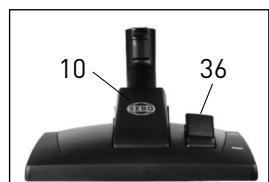

Figure 18
Kombi Nozzle (optional) - Figure 18
The Kombi Nozzle (10) is adjustable for carpet or hard floors. To set for hard floors, push the back end of the toggle button (36) downward until it clicks into place. The brush will lower to gently sweep your floors. To set for carpet, push the front end of the toggle button (36) downward until it clicks into place. The brush will raise up allowing the head to move over the carpet. **The toggle button in Figure 18 is set in the position for carpet.** The brush should be cleaned regularly. Remove the Kombi Nozzle from the telescopic tube to clean. Fibers and hair can be pulled out of the bristles manually, or vacuum the bristles with the telescopic tube.